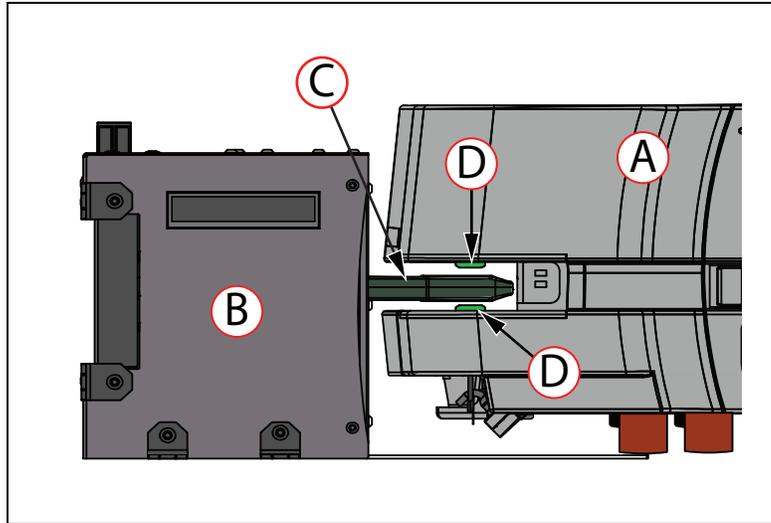

Figure 6-8. (A) HD-1500, (B) Docking Target, (C) Charging Paddle, and (D) HD-1500 Charging Contacts
- **Charging Contacts** The charging contacts on the AMR receive the power from the docking target and transfer to the AMR's battery ((D) in Figure 6-8).